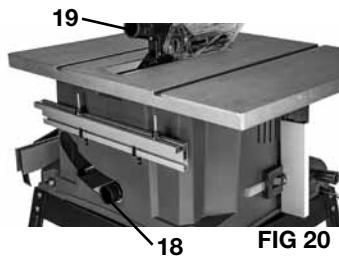

FIG 20
SAWDUST COLLECTION (FIG 20, 21)
This table saw has a removable sawdust collector (18) below the saw blade and a dust chute (19) on the blade guard. See FIG 20. A dust collection system can be attached to either or both dust chutes to help remove sawdust from the work area.